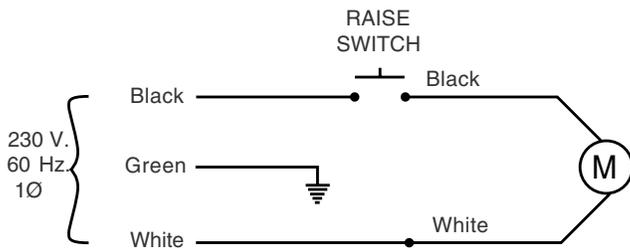

Fig. 18
10. Electrical: Have a certified electrician run 230 volt single phase 60 Hz. power supply to motor, Fig. 18 and 19. Size wire for 25 amp. circuit. See Motor Operating Data table.